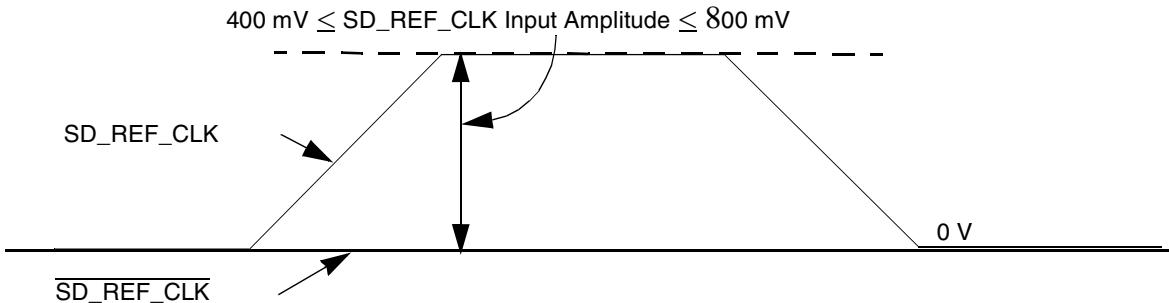

Figure 43. Single-Ended Reference Clock Input DC Requirements
- The SD_REF_CLK input average voltage must be between 200 and 400 mV. Figure 43 shows the SerDes reference clock input requirement for single-ended signaling mode.